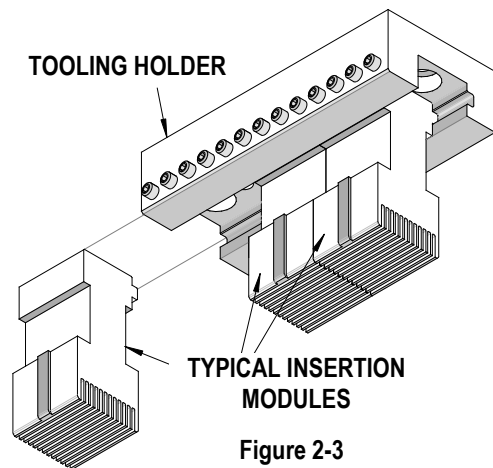

Figure 2-3
2. Slide the insertion modules into the tooling holder in the proper order. See Figure 2-3. The modules are keyed so that they cannot be installed backwards.